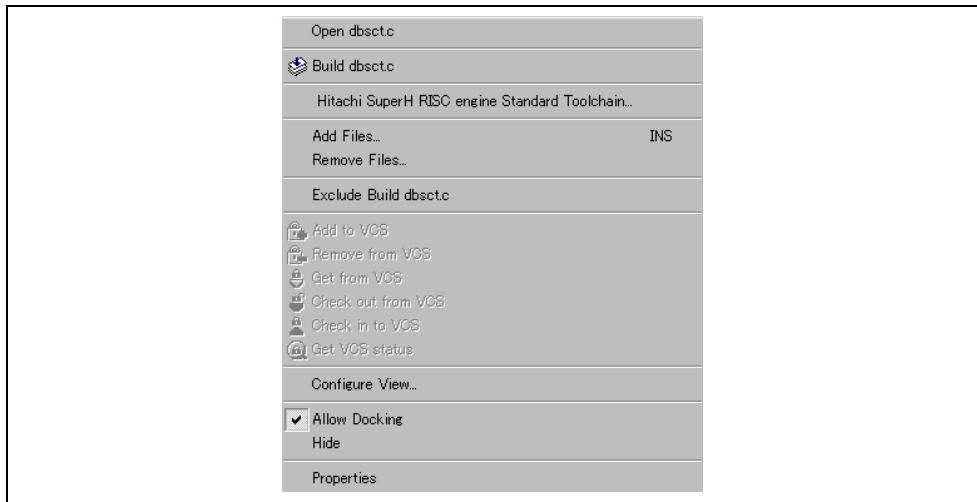
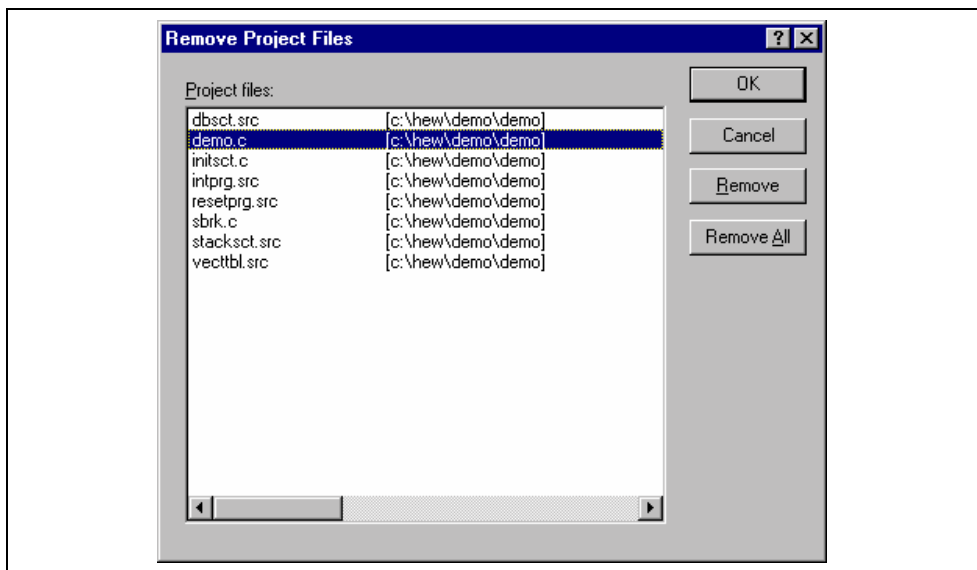

Figure 2.5: Projects Tab Pop-up Menu
Figure 2.6: Remove Project Files Dialog
1. Select **[Project->Remove Files...]**, or select **[Remove Files...]** from the “Projects” tab’s pop-up menu in the Workspace window (see figure 2.5). The “Remove Project Files” dialog will be displayed (figure 2.6).
2. Select **[Exclude Build file]**, where <file> is the selected file, from the pop-up menu (figure 2.5). Then a red cross will be put on the file’s icon, and the file will be excluded from build.